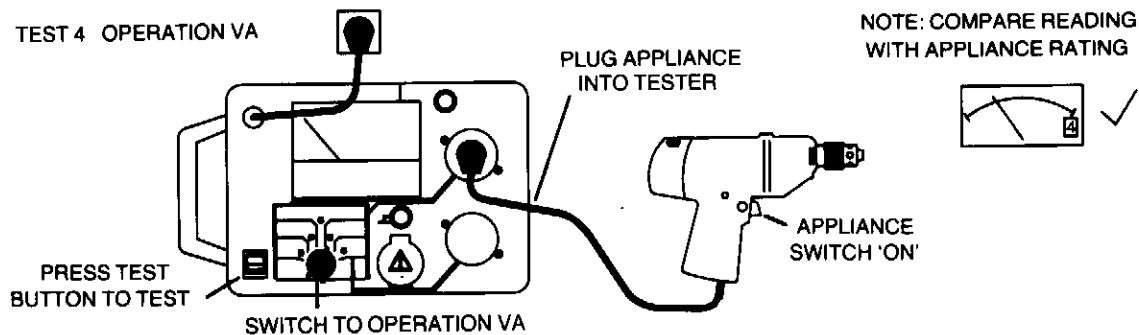

Fig. 4 Operation Test
15. Release the 'Test' switch and record the result. **Operation Test** - see Fig. 4